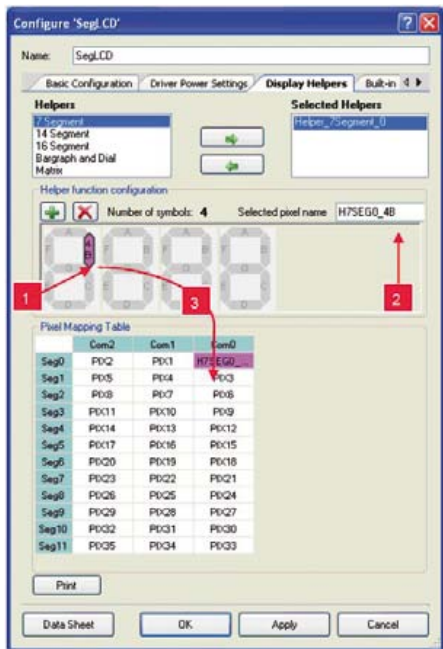

Figure 4. Adding digits to the Helper.
The parameters in the Display Helpers tab are shown in **Figure 3**. For this example you will only need one of the helpers, the 7 Segment. First select 7 Segment (1). Then click on the right arrow (2) and the Helper\_7Segment\_0 is seen in the Selected Helpers field. Finally, click on Helper\_7Segment\_0 (3) and the window will expand, which is shown in **Figure 4**.
By pressing the green plus button three times you obtain the four seven-segment displays show in Figure 4. The next steps are to select a pixel, rename it, and assign it to the pixel mapping table. These steps are indicated in the screendump. First click on segment B of the fourth symbol referring to the LCD glass (1). In the selected pixel name field, you can name the pixel whatever you want (2). Drag and drop the selected pixel to the pixel mapping table below (3). Make sure that the pixel mapping matches your LCD’s datasheet.